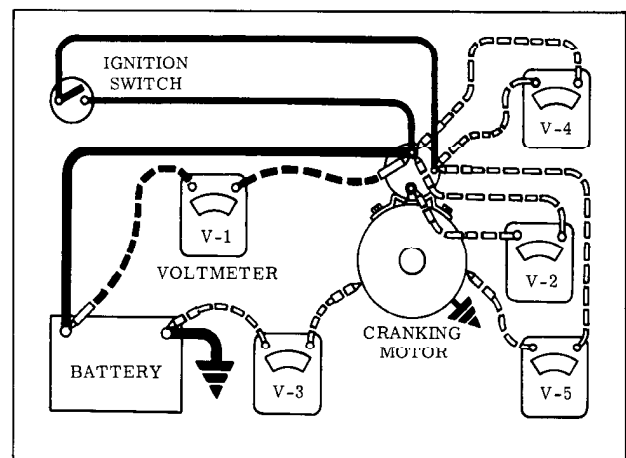

Fig. 13-46 Checking Starting Circuit
2. Measure the voltage drop (V1) during cranking between the positive battery post and the "BATTERY" terminal of the solenoid. (Fig. 13-46)